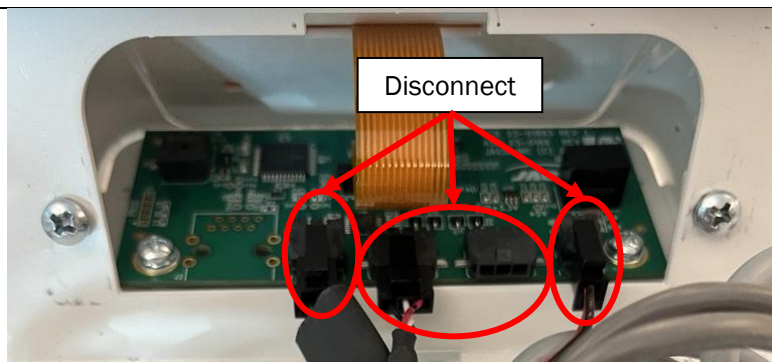

Figure 3: Disconnect all Cables
3. Disconnect all cables from the status module as shown in Figure 3.